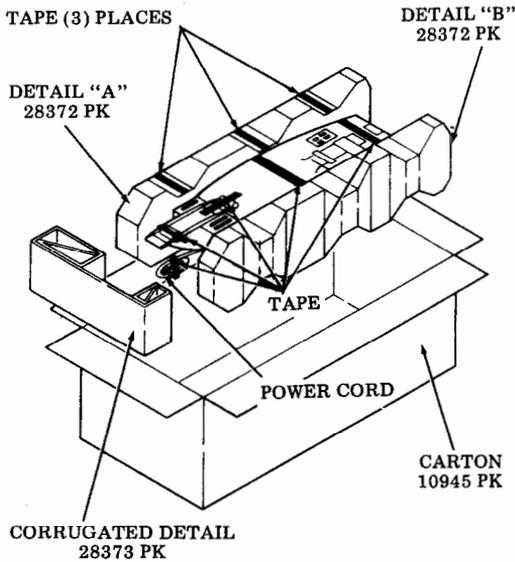

Fig. 7
4.06 Coil the power cord and band it with a strip of tape. Position power cord in package as shown in Fig. 7.
4.08 Position a Detail "A" and a Detail "B" on the PTU as shown in Fig. 7.
4.09 Tape the Details (A and B) in position with three strips of tape. Start at center of details and go all around the details. See Fig. 7.
4.10 Position the corrugated detail in carton as shown in Fig. 7.
- 4.11 Position the corrugated detail in the carton as shown in Fig. 7.